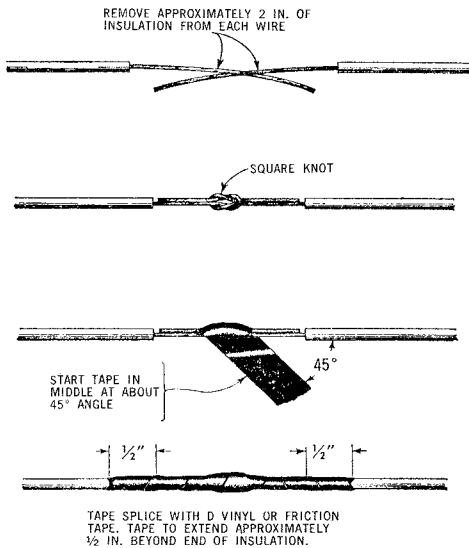

Fig. 7 — Splicing Wire
**4.06** Broken cords shall be spliced as illustrated in Fig. 7 and explained: